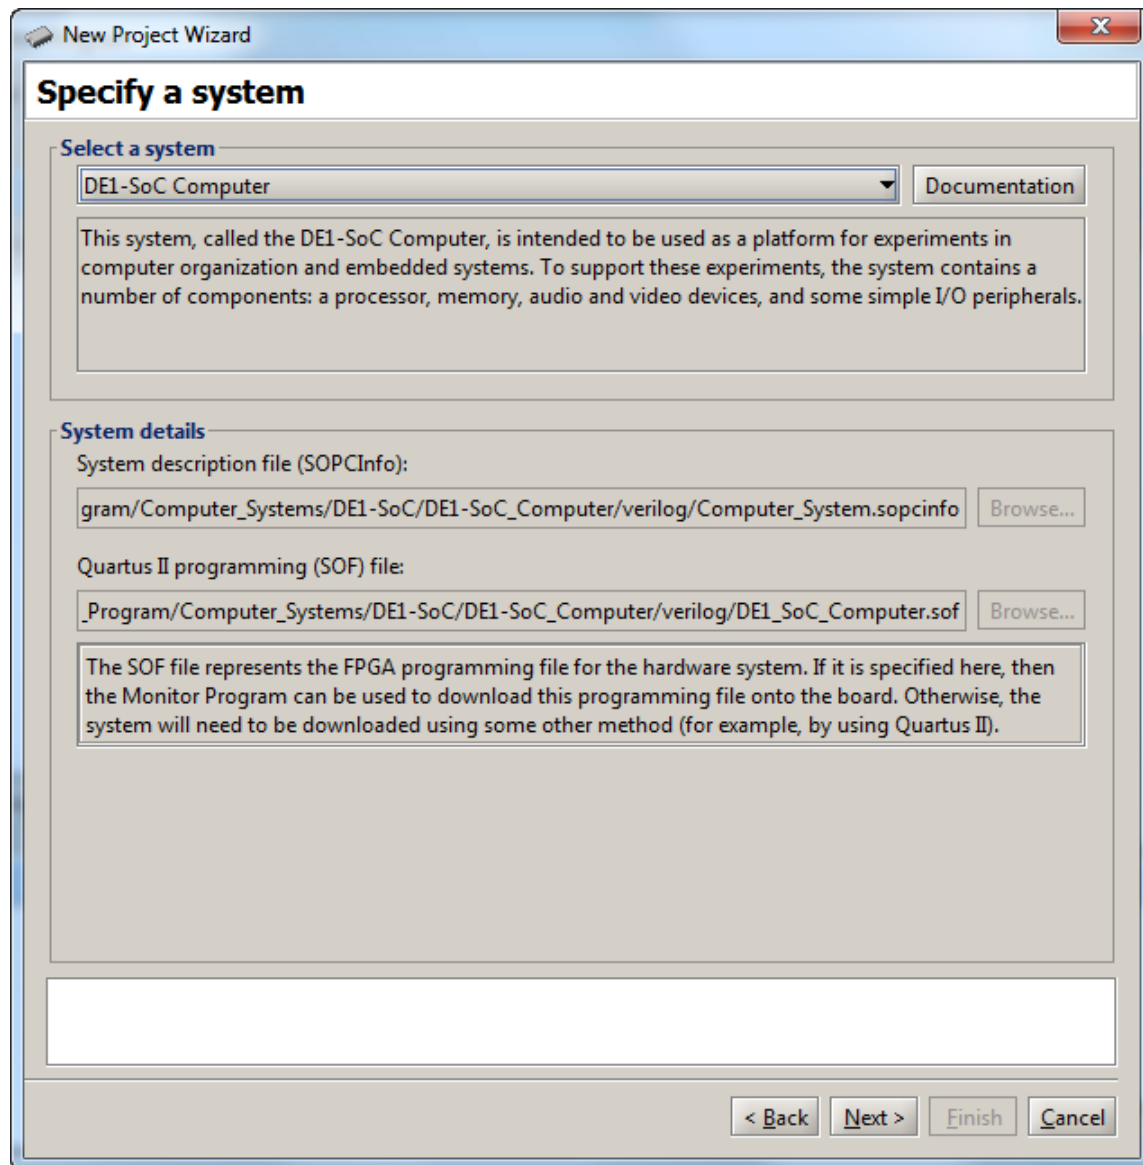

Figure 6. Specifying the desired hardware system.
2. Click **Next** to advance to the window shown in Figure 6, which is used to specify a particular system. A hardware system to be implemented on the FPGA board is usually generated by using Altera's Qsys tool. Information about creating systems using Qsys can be found in the *Introduction to the Altera Qsys System Integration Tool* tutorial, which is available in the University Program section of Altera's website.
In the top right corner of Figure 6 there is a **Documentation** button. Clicking on this button opens a user guide that provides all information needed for developing Nios II programs for the DE1-SoC Computer, such as the memory map for addressing all of the I/O devices in the system. This file can also be accessed at a later time by using the command **Settings > System Settings** and then clicking on the **Documentation** button.